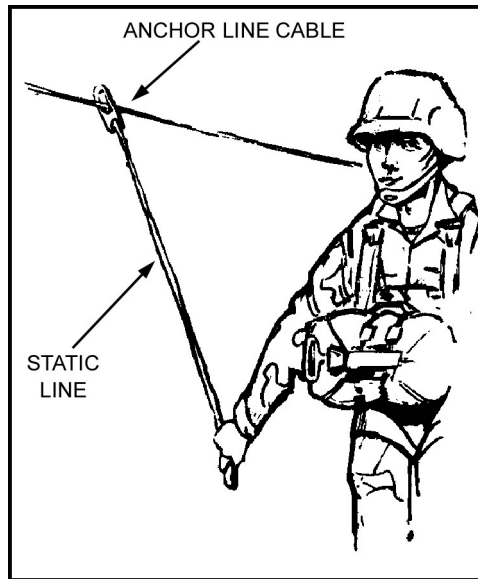

Figure 16-5. Static line grasped with reverse bight.
(1) An oral 10-minute warning is given, and the JM begins the jump commands. Prior to the 10-minute warning, the JMs hook up to the anchor line cable, hand the static line to the safety, and announce, SAFETY, CONTROL MY STATIC LINE. The PJM then issues the jump commands. The same sequence of jump commands and the same procedures are used for the door and ramp.
(2) Jumpers hook up to the appropriate anchor line cable with the open side of the snap hook facing outboard toward the skin of the aircraft. They maintain a reverse bight (Figure 16-5).